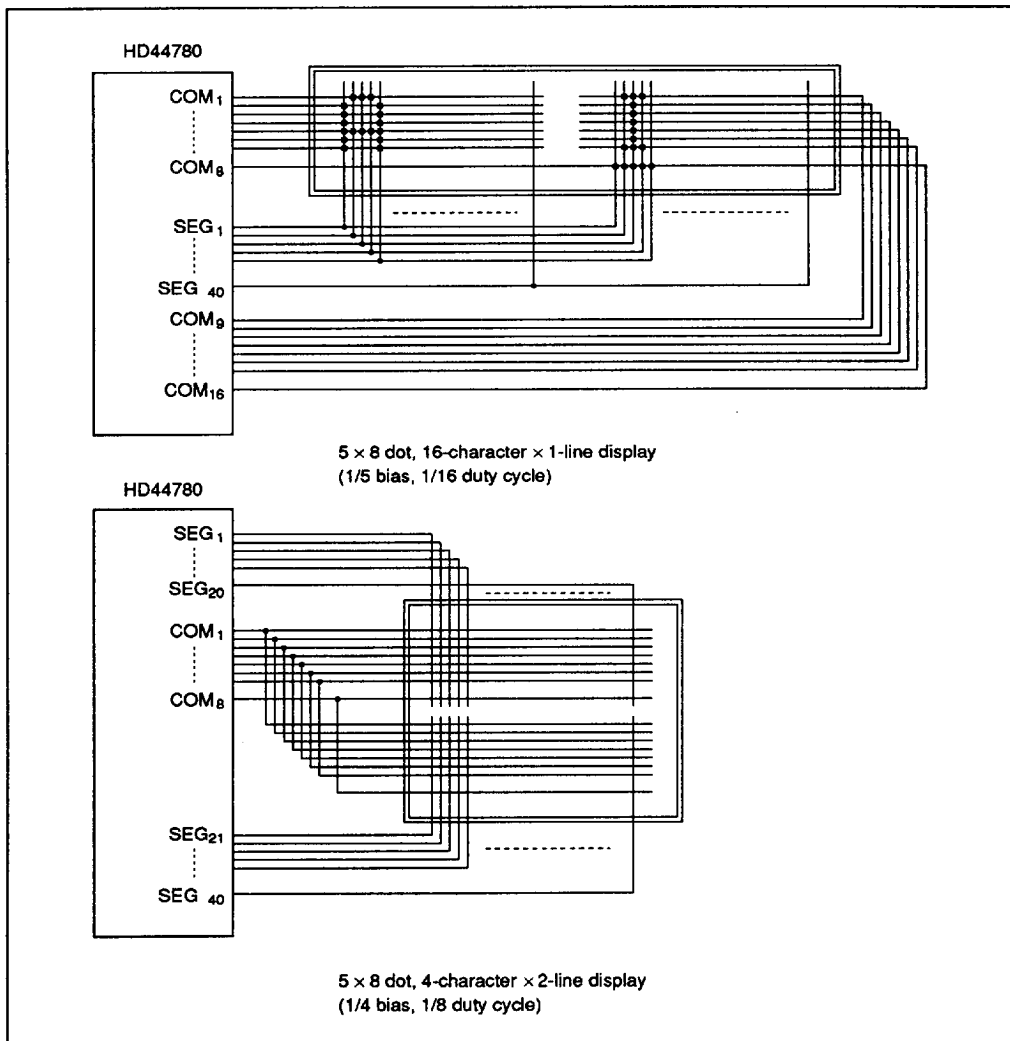

Figure 28 Changed Matrix Layout Displays
**Connection of Changed Matrix Layout:** In the preceding examples, the number of lines correspond to the scanning lines. However, the following display examples (figure 28) are made possible by altering the matrix layout of the liquid crystal display panel. In either case, the only change is the layout. The display characteristics